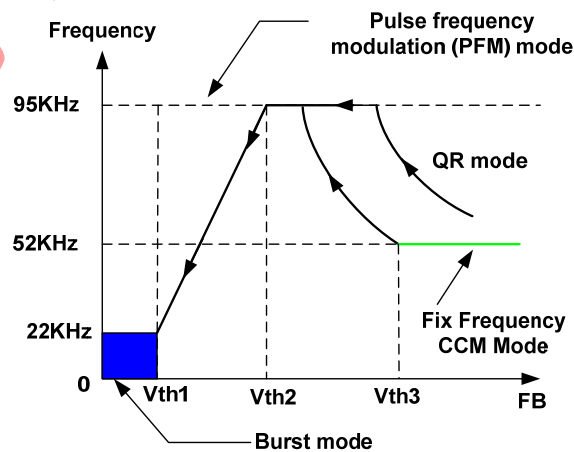

Figure 1
■ At full load conditions ( $FB > V_{th3}$ , Figure 1), there are two situations: firstly, if the system input is in low line input range, the IC operates in fixed frequency CCM mode. Thus, small size transformer can be used with high power conversion efficiency. Secondly, if the system input is in high line input range, the IC operates in QR mode. In this way, high power conversion efficiency can be achieved in the universal input range when system is at full loading conditions.
■ At normal operating conditions ( $V_{th2} < V_{FB} < V_{th3}$ , Figure 1), the system operates in QR mode. The frequency varies depending on the line voltage and the load conditions. Therefore, the system may actually work in DCM when 95KHz frequency clamping is reached.
■ At light load conditions ( $V_{th1} < V_{FB} < V_{th2}$ , Figure 1), the system operates in PFM (pulse frequency modulation) mode for high power conversion